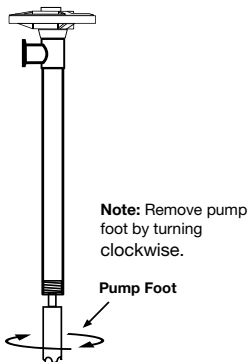

Figure 3
3. Remove the pump foot. (see Figure 3).